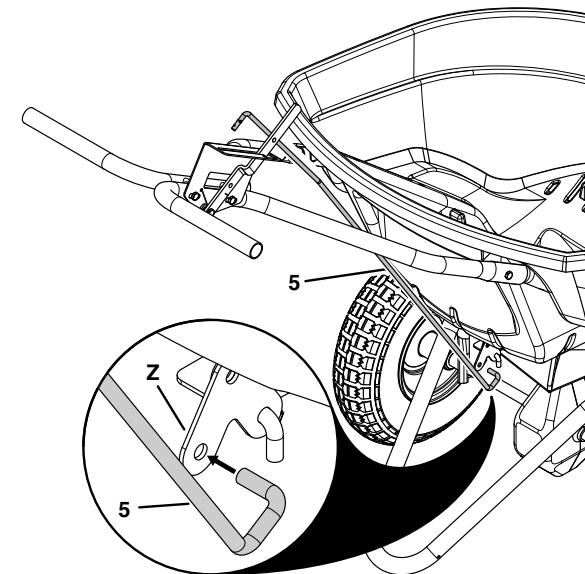

Figure 13
STEP 13: (SEE FIGURE 13)
- Insert the lower end of the flow control rod (5) through the hole in the drive link bracket (Z) and then twist the rod so that the end points down.